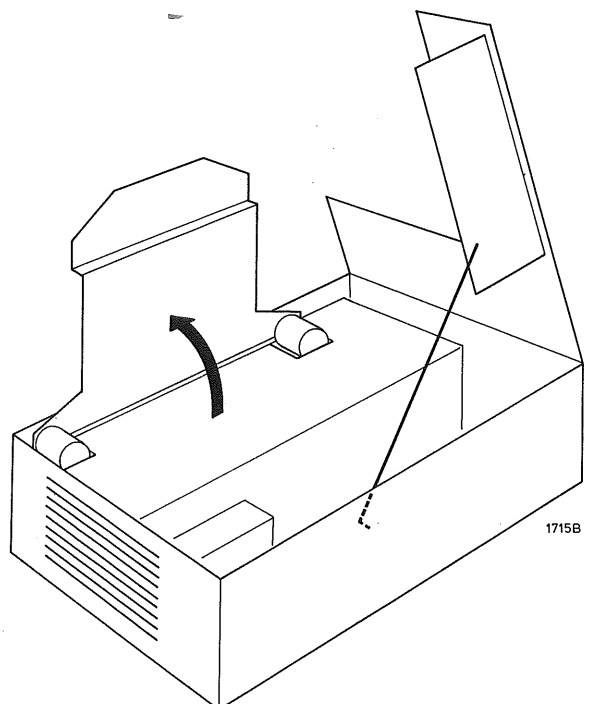

Fig. 3
- After removing the 5 screws D the complete tape deck can be placed on end in the cabinet (see Fig. 3).